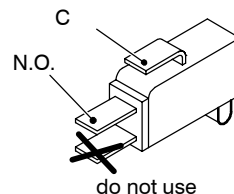

Fig. 49
- 2 Measure the electrical resistance between the tabs marked C. and N.O. (Fig. 49). The contact must be normally open.
- 4 Re-assemble the parts in reverse order of removal. Refer to Fig. 49 for the correct wiring connectors on the switch